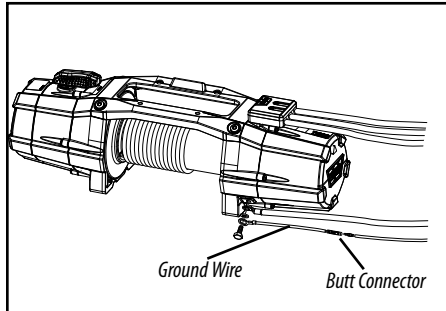

Figure 11
3. Use the supplied butt splice connector and the black extension wire to lengthen the contactor ground wire (see Figure 11).